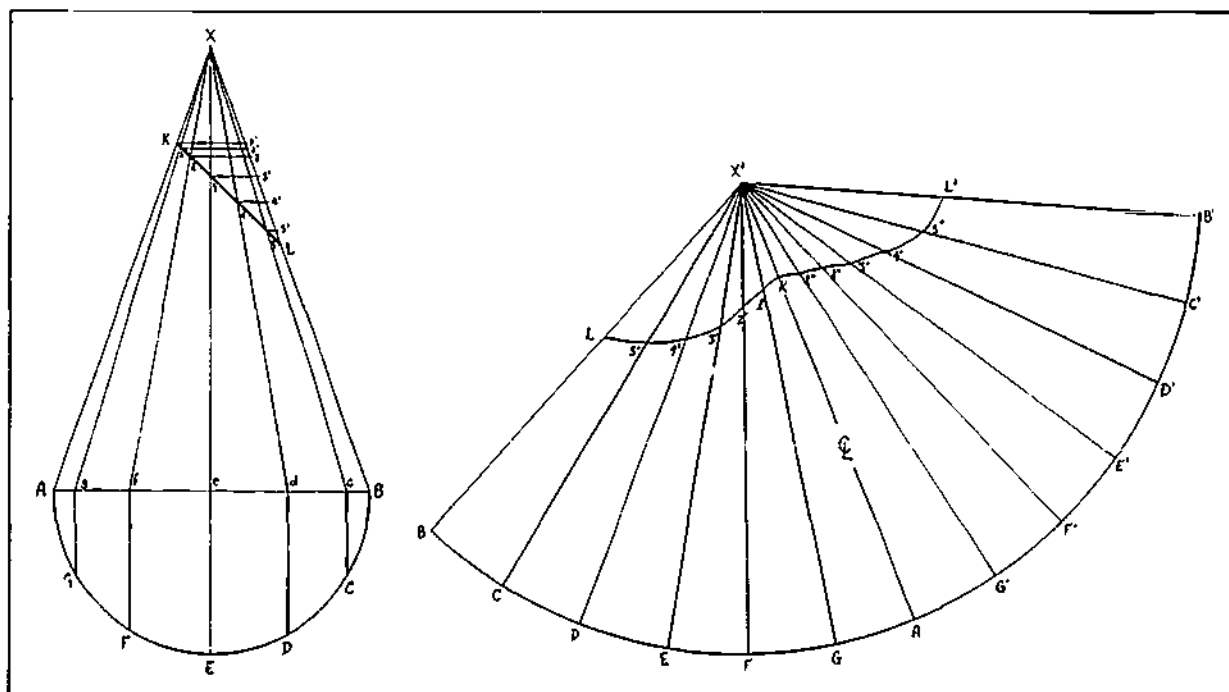

Figure 5-41. Right Cone with Oblique Cut
- Step 1** To develop the pattern (Figure 5-41) for the oblique-cut cone, KABL, lay out the elevation and extend lines AK and BL to intersect at X.
- Step 4.** With centre X' and radius XB, describe the arc BB' equal in length to the calculated circumference of the cone. Connect points B and B' to X. These lines represent the selected seam line in the layout, chosen because it will require the shortest weld. Divide the arc into 12 equal parts and label the division points as shown in Figure 5-41. Join these points to X'. Point A is the centre line of the pattern.